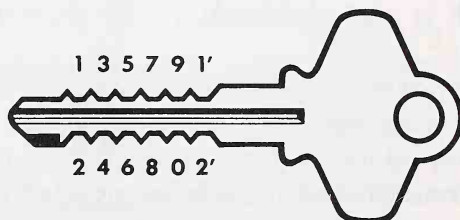

Fig. 10-31. A grand masterkey that fits all the keyway units in two masterkeyed groups (Figs. 10-29 and 10-30).
- The grand masterkey has all the notches found on both masterkeys and will, therefore, operate all of the keyway units in both groups (Fig. 10-31). This illustration represents only one of a large variety of possible grand masterkeying arrangements. More complex systems or those involving a greater number of masterkeys should be referred to the factory.